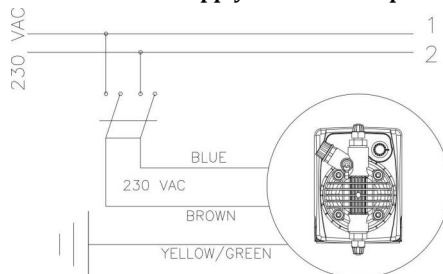

Fig. 4
1. Disconnect the pins from the mains or by means of a two poles switch with 3 mm minimum distance between the contacts. (Fig. 4).
b. - Carefully observe the regulations in force in the various countries as regards electrical installations (Fig.4). **When the supply cable is devoid of a plug, the equipment should be connected to the supply mains by means of a single-pole circuit breaker having a minimum distance of 3 mm between the contacts. Before accessing any of the electrical parts, make sure that all the supply circuits are open.**